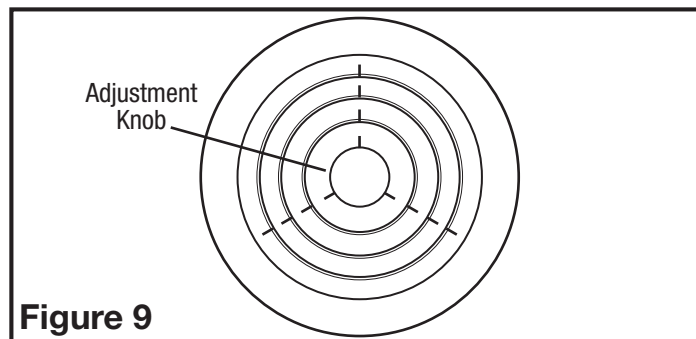

Figure 9
- 1b. **6" Inline Kits:** Locate the damper adjustment knob in the center of the grill. While pushing inward on the knob, twist the knob to adjust the damper to uncover as much of the opening as is necessary to balance the system (**Figure 9**).